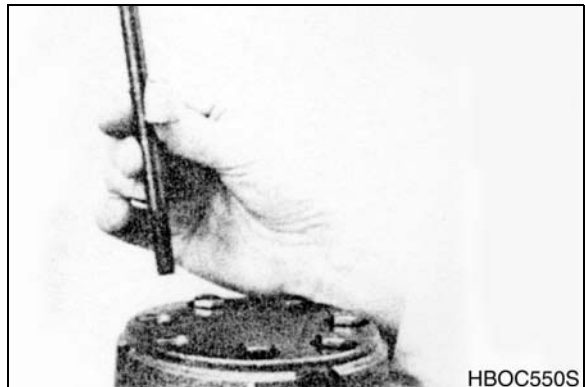
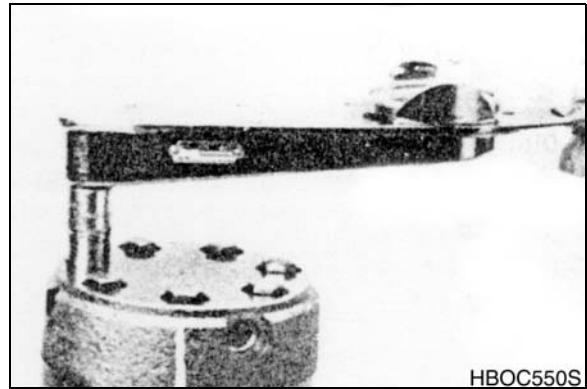
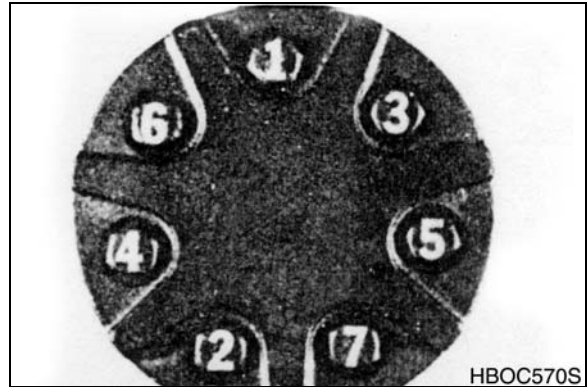

Figure 68
Figure 69
Figure 70
24. Assemble the 5 or 7 special bolts (1, 1A, 1B or 1C) and screw in fingertight. Remove and replace the two alignment studs with bolts after the other bolts are in place. Alternately and progressively tighten the bolts to pull the end cover and other components into place with a final torque of 22 - 26 ft lb (30 - 35 Nm) for the five MG and MF Series 5/16 24 threaded bolts or 45 - 55 ft lb (61 - 75 Nm) for the seven MB and ME Series 3/8-24 threaded bolts. SEE Figure 68, Figure 69, and Figure 70.
25. Torque the two shuttle valve plug assemblies (21) in end cover assembly to 9 - 12 ft lb (12 - 16 Nm) if cover is so equipped. SEE FIGURE 69.